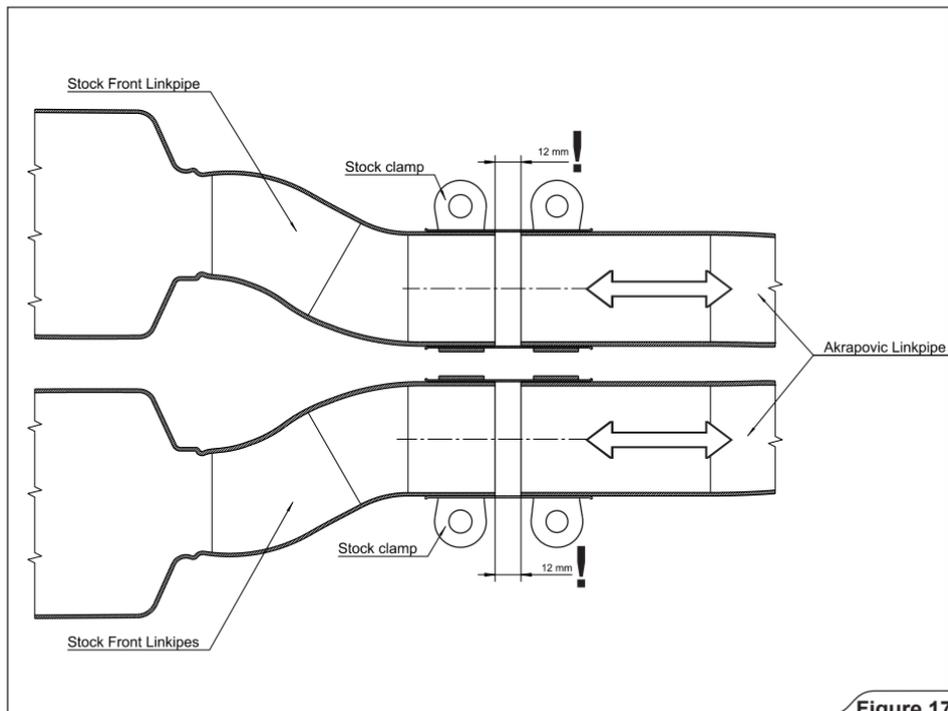

Figure 17
2. Adjust the Akrapovič link pipe in the axial direction so, that the clearance between stock front link pipes and Akrapovič link pipes is exactly 12 mm (**Figure 17**).